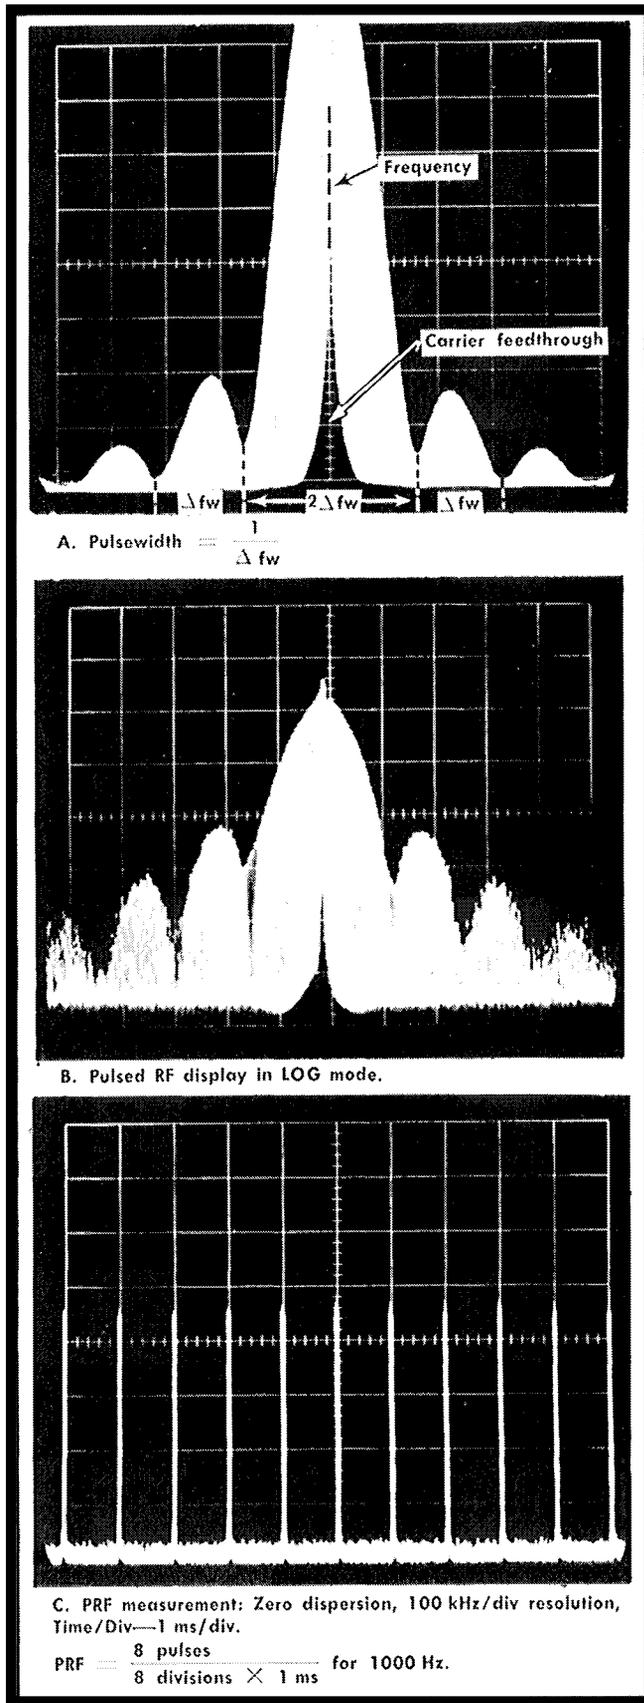

Fig. 2-27. Pulse modulation display, illustrating pulse width and PRF measurements.
3. The frequency difference between the first two minima of any spectrum is a measure of the modulating pulse width. See Fig. 2-27.
The pulse width is equal to the reciprocal of  $\frac{1}{2}$  the main lobe frequency width, or the reciprocal of the side lobe frequency width. See Fig. 2-27.